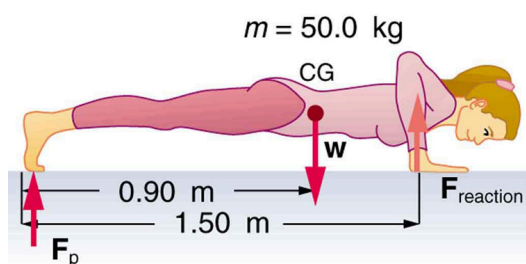

FIGURE 9.43 A woman doing pushups.
- 37.** (a) What force should the woman in Figure 9.43 exert on the floor with each hand to do a push-up? Assume that she moves up at a constant speed. (b) The triceps muscle at the back of her upper arm has an effective lever arm of 1.75 cm, and she exerts force on the floor at a horizontal distance of 20.0 cm from the elbow joint. Calculate the magnitude of the force in each triceps muscle, and compare it to her weight. (c) How much work does she do if her center of mass rises 0.240 m? (d) What is her useful power output if she does 25 pushups in one minute?